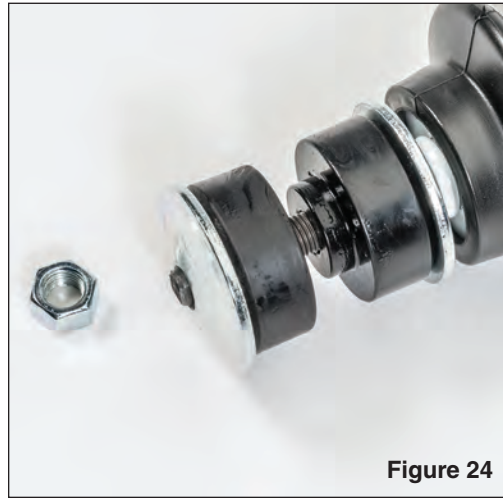

Figure 24
*Assemble the shock bottom bushings exactly as shown (see FIG 24).*